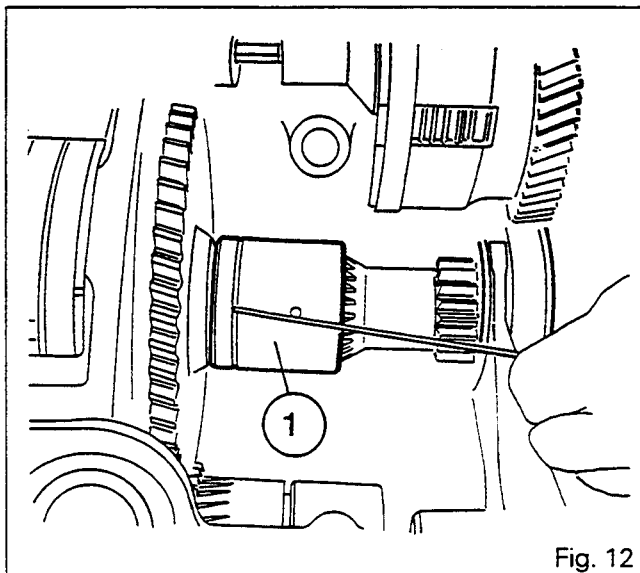

Fig. 12
Note: The machined groove on the sleeve (2) must be pointing towards the rear of the tractor (Fig. 12).